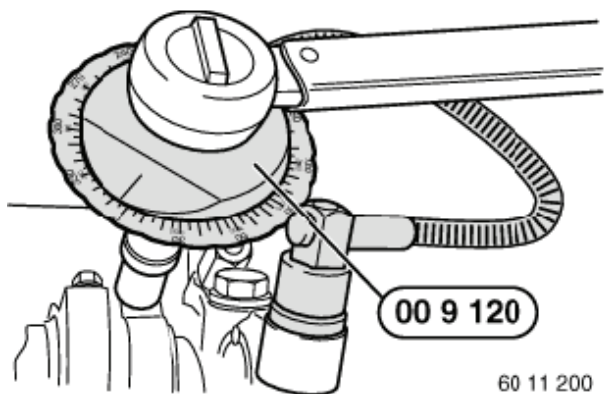

Figure 5-63
13. Lightly oil NEW bolts and install to an initial torque of 5 N·m (44 in.-lb) (**Figure 5-63**). Torque-turn tighten to final specification of 20 N·m (177 in.-lb) plus 70°. **NOTICE: NEVER install used connecting rod cap bolts. ALWAYS install new bolts when installing connecting rod cap.**